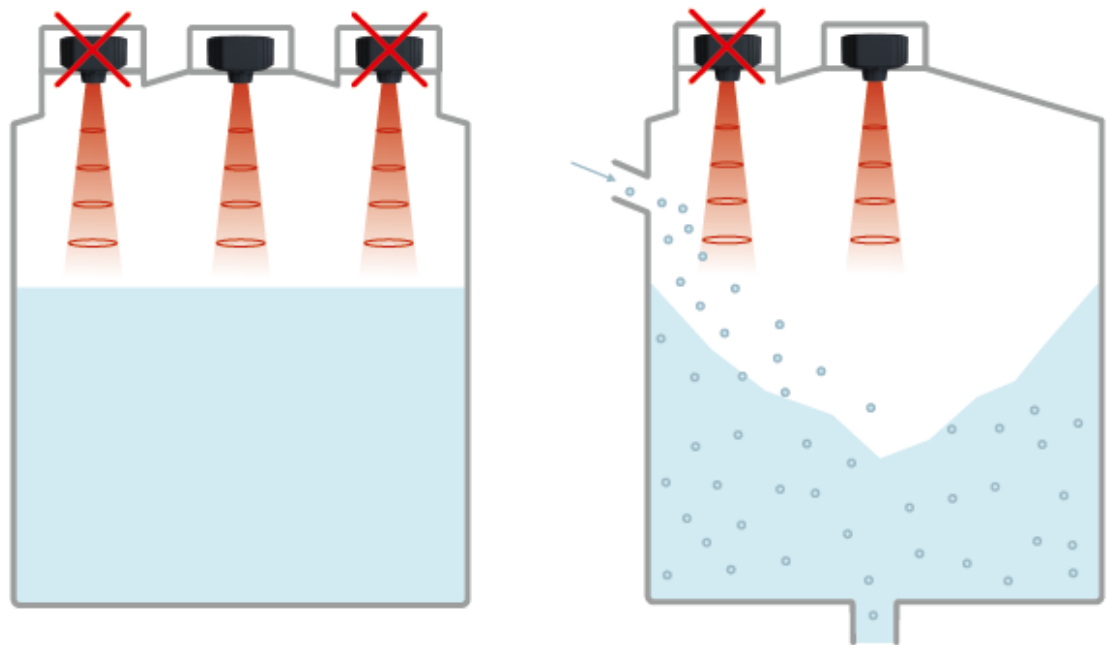

Fig. 5. Recommended sensor installation locations
- Install the sensor so that the flow of liquids or bulk materials during loading/unloading DOES NOT enter the sensor measurement zone (Fig. 5).